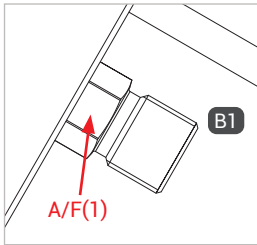

Figure 1
- ▶ When mounting the filling hose, hold an open-ended wrench against the wrench size A/F(1) (Figure 1).
- ▶ Screw the media inlet 'B1' pressure-tight onto the connection port of the filling hose (Figure 1).